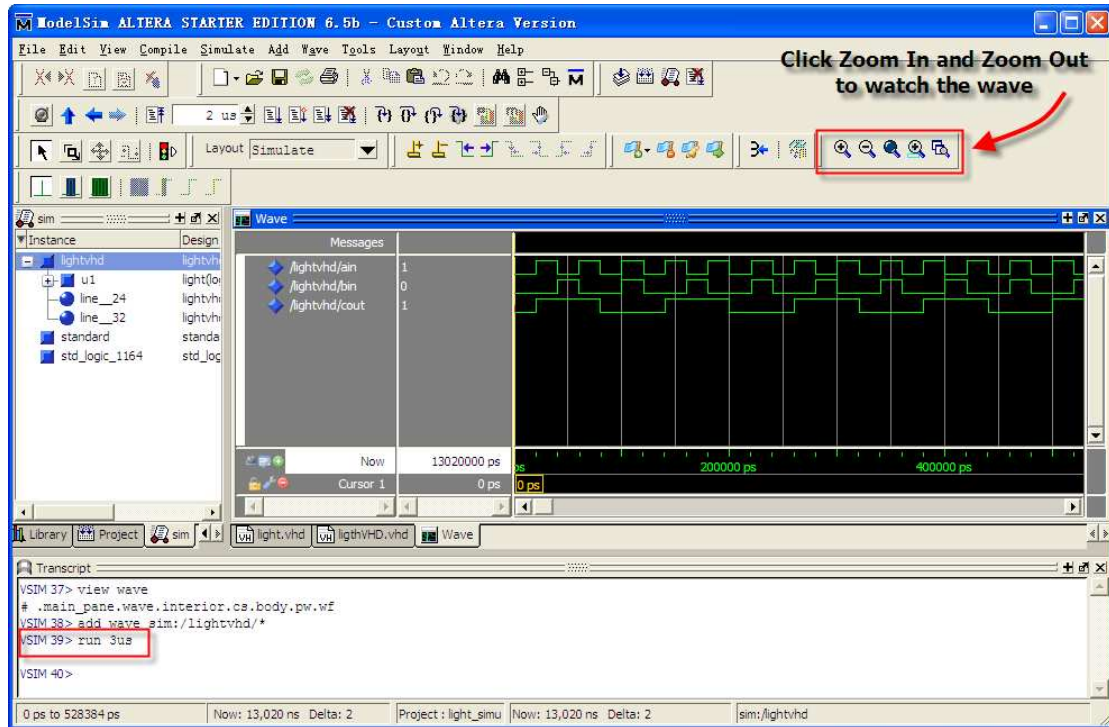

Figure 41. Waves Drawn in Wave Window
- a. Enter **run 3us** at the **VSIM>** prompt in the Transcript window (Figure 41).